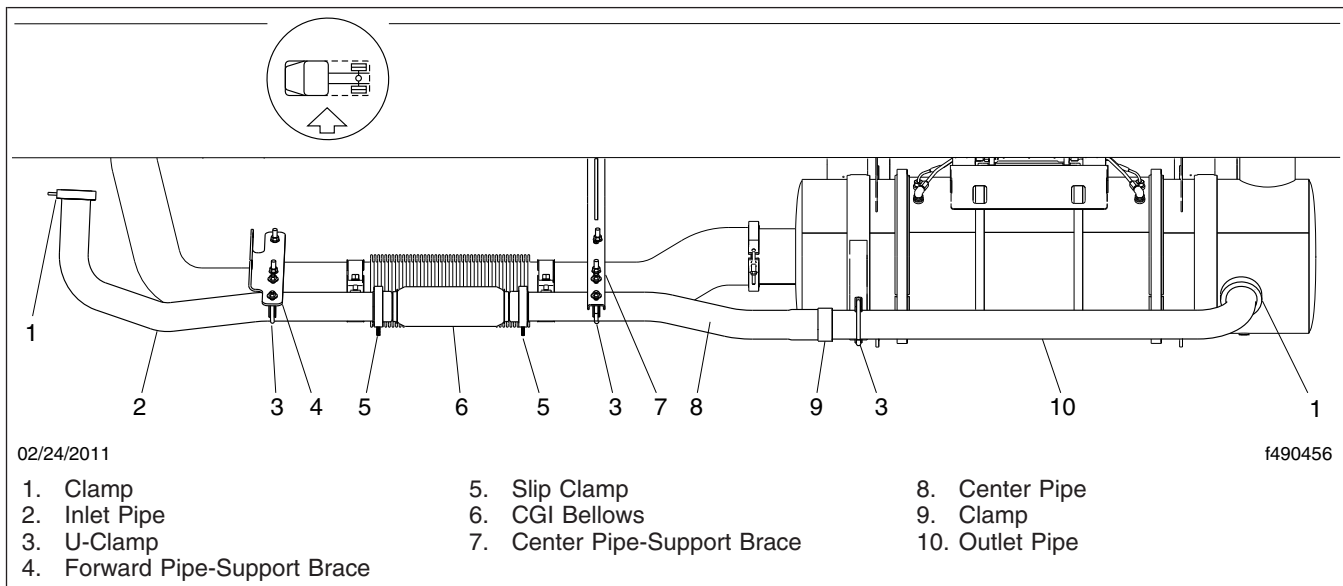

Fig. 8, CAT EPA07 Exhaust Installation with CGI Bellows
3. On vehicles with CAT engines, inspect the CGI bellows and piping for evidence of damage or leakage. See Fig. 8. If the bellows is damaged or leaking, replace it. See 49-02 for the replacement procedure.